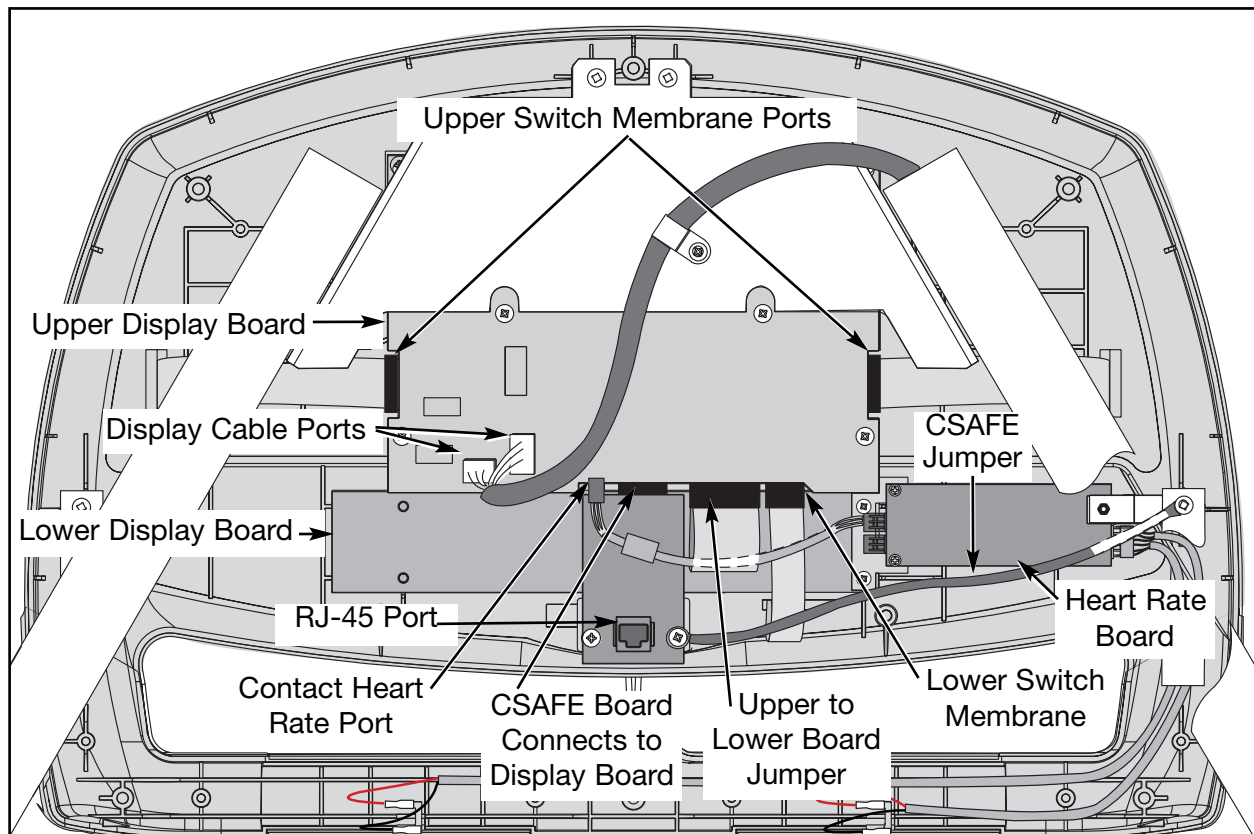

Figure 24
A. Disconnect these cables from the display board: the display cable (2 connectors), the two upper switch membranes, the lower switch membrane, the contact heart rate cable and the upper to lower board jumper. See Figure 24.
- A. Connect these cables into the display board: the display cable (2 connectors); the two upper switch membranes; the lower switch membrane; the contact heart rate cable and the upper to lower board jumper. See Figure 24.
- C. Disconnect the display cable (P3 and P8) from the upper display board. See Figure 24.